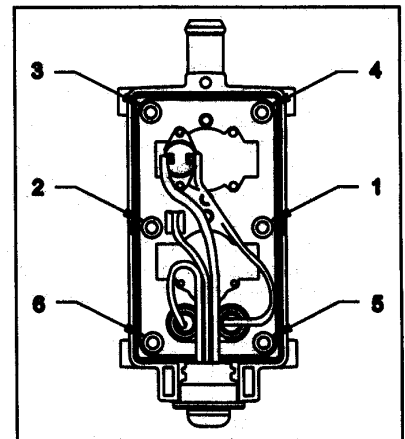

Figure 8 - Fastener-Tightening Pattern
- 8) Reassemble heater, tightening torx screws to 45 in. lb.'s torque in the fastener-tightening pattern shown in Figure 8. Ensure that thermostats are seated tightly against flange plate for proper temperature sensing.